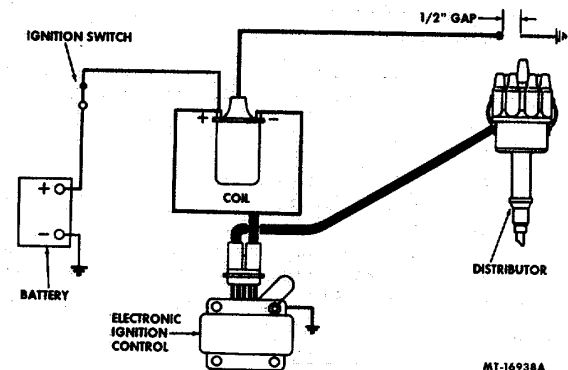

Fig. 6 Test for Spark at Distributor Cap
6. Disconnect high tension cable from center tower terminal of distributor cap. Using insulated pliers, hold cable to create about 12.7 mm (1/2") gap between cable terminal and engine (Fig. 6). Have an assistant crank engine.